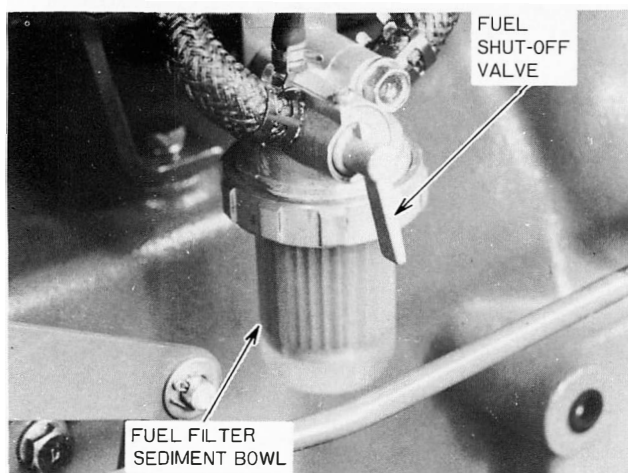

Figure 35 – Fuel Filter
1. Be sure there is adequate fuel in the fuel tank, close the fuel shut-off valve, Figure 6, then remove the fuel sediment bowl, Figure 35.
1. Close the shut-off valve, Figure 6, Figure 35.
2. Remove the sediment bowl, Figure 35.